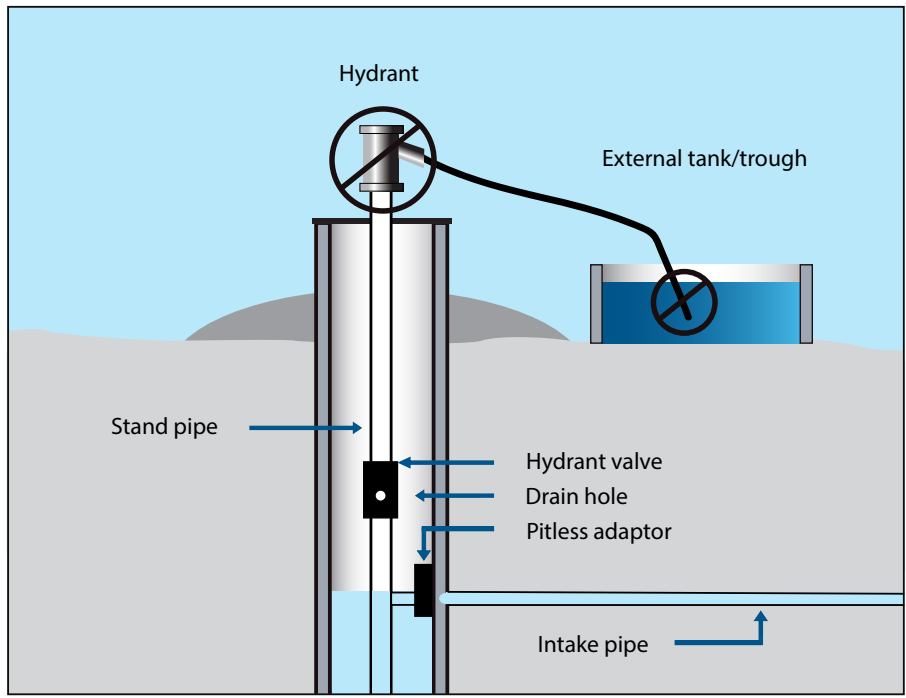

Figure 12. Example of a poor water hydrant installation and hose positioning.
**Water hydrants** are equipped with a bleeder valve at the base to allow the water to drain back down into the well to prevent freezing within the hydrant itself. A hose attached to a hydrant to fill sprayer tanks or water haulers should not be placed inside the tank because liquid from the tank can be syphoned back into the well. Hydrants should never be completed into, or immediately adjacent to, a well because of increased risk of contaminants moving down into the well. Figure 12 shows incorrect hydrant installation and improper hose positioning.